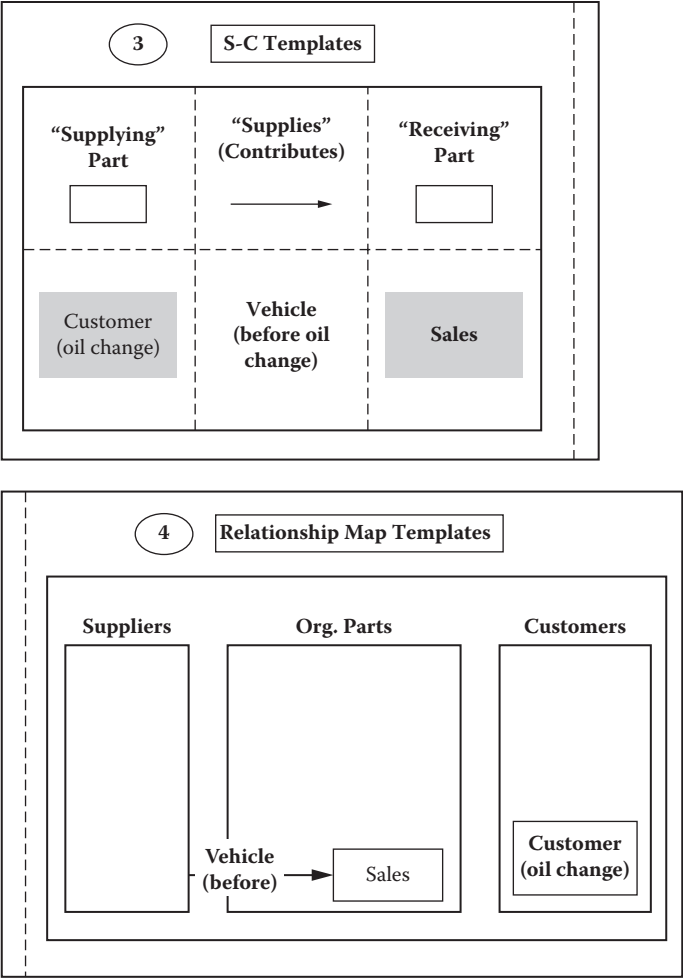

Figure A.3 Supplier–customer and relationship map templates in workspaces 1 and 2, respectively.
4. Create a “basic relationship map” template and place it in “Workspace 2” (Figure A.3).